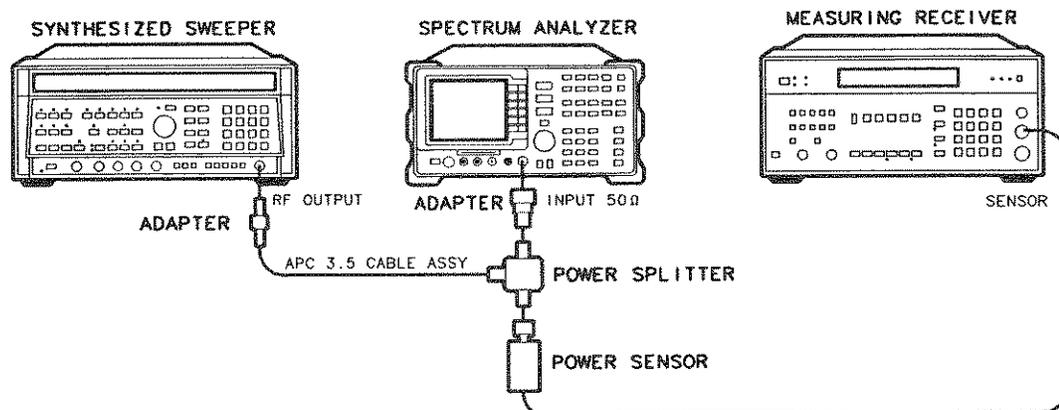

Figure 4-16. Frequency Response Test Setup, ≥ 50 MHz
2. Connect the equipment as shown in Figure 4-16. *Option 026*: Connect the output of the power splitter to the analyzer input directly.